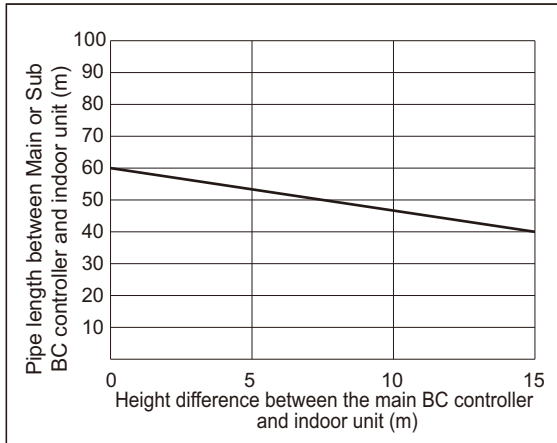

Fig. 2
- \*2. Details refer to Fig. 2.
- \*9. When the piping length or the vertical separation exceeds the limit specified in Fig. 2, connect a sub BC to the system. The restriction for a system with a sub BC connection is shown in Fig. 3. When a given system configuration falls within the shaded area in Fig. 3, increase the size of the high-pressure pipe and the liquid pipe between the main BC and sub BC by one size. When using P/M32, P/M40, P/M50, P/M100, or P/M125 model of indoor units, increase the size of the liquid branch pipe between the sub BC and indoor unit by one size. When using indoor models P/M140 or larger, the restrictions shown in Fig. 2 cannot be exceeded.
\*9. When the piping length or the vertical separation exceeds the limit specified in Fig. 2, connect a sub BC to the system. The restriction for a system with a sub BC connection is shown in Fig. 3. When a given system configuration falls within the shaded area in Fig. 3, increase the size of the high-pressure pipe and the liquid pipe between the main BC and sub BC by one size. When using P/M32, P/M40, P/M50, P/M100, or P/M125 model of indoor units, increase the size of the liquid branch pipe between the sub BC and indoor units by one size. When using indoor models P/M140 or larger, the restrictions shown in Fig. 2 cannot be exceeded